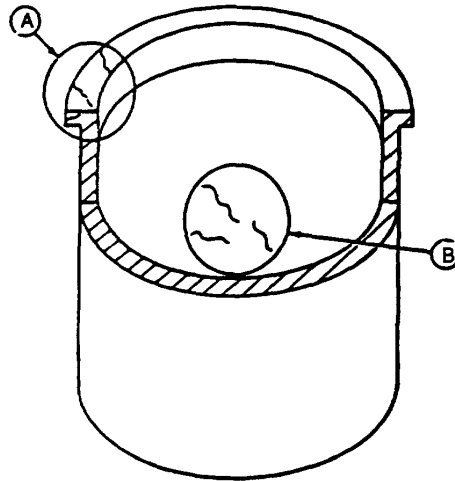

FIGURE 3-132. Inspecting Cylinder Liner for Cracks
- s. Carefully examine cylinder liner for signs of fatigue, such as fine cracks in flange area (A, FIGURE 3-132) and cracks in the ring travel area (B). If any defects are found, replace the piston and liner. If no defects are found, proceed to next step. If pistons and liners have passed all previous checks, proceed to check both for proper specifications, listed in steps t and u.